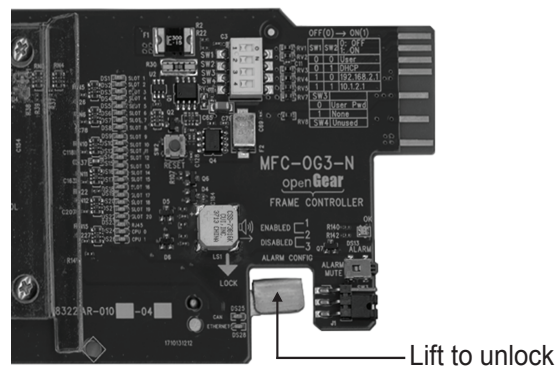

Figure 2.1 MFC-OG3 Series Card — Lock
4. Lift the lock before inserting the card into its slot. (**Figure 2.1**)